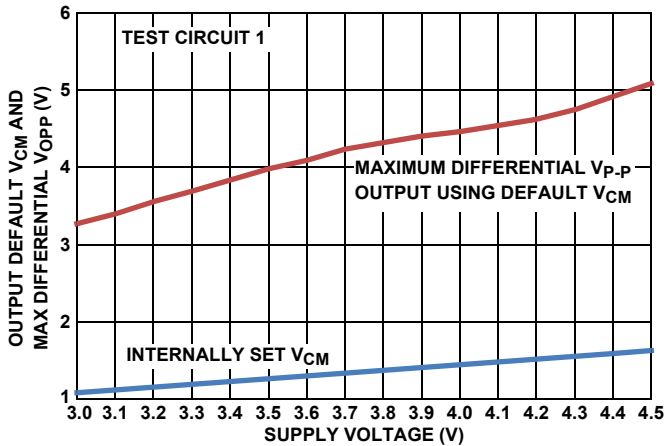
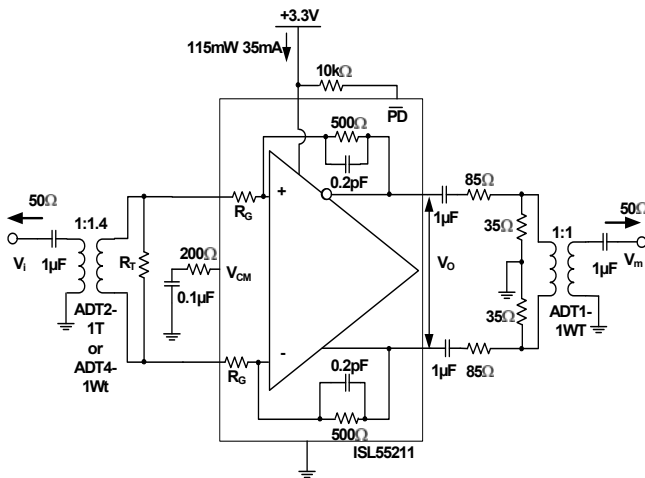
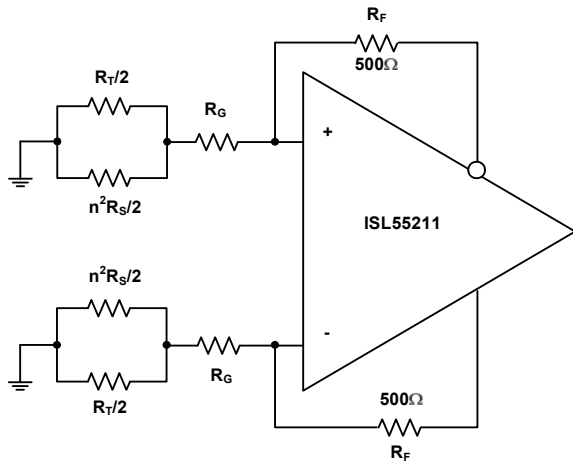
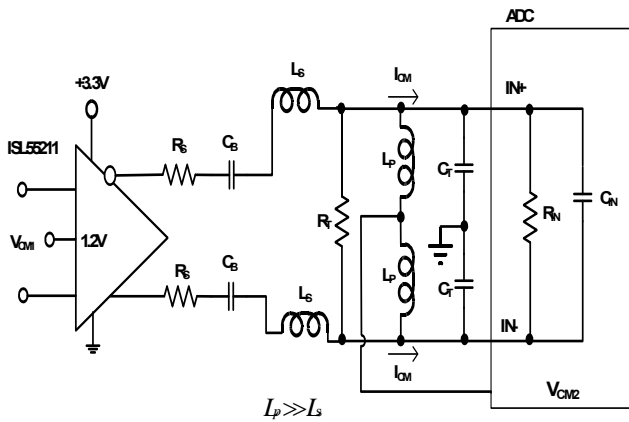

FIGURE 27. DEFAULT V_{CM} AND MAX V_{OPP} vs SUPPLY VOLTAGE
FIGURE 29. TEST CIRCUIT 1
FIGURE 35. NOISE GAIN MODEL FOR THE TRANSFORMER COUPLED INPUT CIRCUIT OF FIGURE 29
FIGURE 37. AC-COUPLED, HIGHER FREQUENCY RLC INTERSTAGE FILTER DESIGN
Test Circuit 1 of Figure 29 forms a starting point for many of the characterization curves for the ISL55211. Since most lab sources and measurement devices are single-ended, this circuit converts to differential at the input through a wideband transformer and would also be a typical application circuit coming from a single-ended source. Assuming the source is a 50 Ω impedance, the internal R_G resistors and external R_T are set to provide both the input termination and the gain. Since the inverting summing nodes act as virtual ground points for AC signal analysis, the total termination impedance across the input transformer secondary will be $(2 * R_G) || R_T$. Setting this equal to $n^2 * R_S$ will give a matched input impedance inside the bandwidth of the transformer (where "n" is the turns ratio). The amplifier gain is fixed by the selected input R_G element and the internal 500 Ω feedback resistors. While the ISL55211 is internally a Voltage Feedback Design (VFA) to give the lowest possible noise, internal compensation caps hold the bandwidth over gain setting approximately constant at 1.4GHz. For wider small signal bandwidth at lower gains, consider the ISL55210, which provides >2.2GHz at a gain of 12dB.
Working with a transformer coupled input as shown in Figure 29, or with two DC blocking caps from a differential source, means the output common mode voltage set by either the default internal V_{CM} setting, or a voltage applied to the V_{CM} control pin, will also appear as the input common mode voltage. This provides a very easy way to control the ISL55211 I/O common mode operating voltages for an AC-coupled signal path. The internal common mode loop holds the output pins to V_{CM} and, since there is no DC path for an I_{CM} current back towards the input in Figure 29, that V_{CM} setting will also appear as the input common mode voltage. It is useful, for this reason, to leave any input transformer secondary centertap unconnected. The internally set V_{CM} voltage is referenced from the negative supply pin. With a single 3.3V supply, it is very close to 1.2V but will change with total supply voltage across the device as shown in Figure 27.
Most of the characterization curves starting with Figure 29 then get different gains by changing the connections to the two pairs of input R_G connections, as shown on the pin configuration drawing on page 2. Two input turns ratios are intended for Test Circuit 1; either a 1:1.4 turns ratio (ohms ratio of 2) or a 1:2 turns ratio (ohm ratio of 4). The specific transformers shown in Figure 29 are representative of broadband RF transformers but alternate devices and manufacturers of these turns ratio devices are certainly applicable. The output side of this test circuit presents a differential 200Ω load while converting the differential to single-ended through a resistive attenuator and a 1:1 transformer. This inserts approximately a 17dB insertion loss that is removed to report the characteristic curves. For load tests below the 200Ω shown in Figure 29, a simple added shunt resistor is placed across the output pins. For loads > 200Ω, the series and shunt load R's are adjusted to show that total load (including the 50Ω measurement load reflected through the 1:1 output measurement port transformer) and provide an apparent 50Ω differential source to that transformer. This output side transformer is for measurement purposes only and is not necessary for final applications circuits. There are output interface designs that do benefit from a transformer as part of the signal path as shown in Figure 1. In that case, the 1:1.4 output side transformer becomes part of a filter design and recovers the filter insertion loss from the amplifier output pins to the ADC inputs.
The characterization circuit of Figure 29 shows one possible input stage interface that offers several advantages. Where AC coupling is adequate, the circuit of Figure 29 simplifies the input common mode voltage control. If the source coming into this stage is single-ended, the input transformer provides a zero power conversion to differential. The two gain resistors (R_G in Figure 29) provide both a portion of the input termination impedance and the gain element for the amplifier. For 50Ω systems, these R_G resistors are too high with the turns ratios shown in Figure 29 to provide the full match and an external R_T resistor is required. This R_T element goes away at the highest gain setting using a 1:2 input turns ratio transformer.
This input interface also simplifies the input common mode control. The V_{CM} pin controls the output common mode voltage. In most DC-coupled FDA applications, the input common mode voltage is determined by both this output common mode and the source signal. In a configuration like Figure 29, there is no path for a common mode current to flow from output to input, so the input common mode voltage equals the output. A similar effect could be achieved with just two blocking caps on the two R_G resistors. A DC-coupled, single to differential, configuration will also have a common mode input that is moving with the input signal. Converting to just a differential signal at the amplifier, as in Figure 29, removes any input signal related artifacts from the input common mode making the ISL55211 behave as a differential only VFA amplifier. There is only a very small differential error signal at the inputs set by the loop gain, as in a
of 1.3V for instance, then $1.3V + 0.9V + 1.5V = 3.7V$ will give an unclipped $3.6V_{P,P}$ output capability. The $V_{P,P}$ reported in Figure 27 is an asymmetrically clipped maximum swing. Going 10% above this 3.7V target to 4.1V will be within the recommended operating range and give some tolerancing headroom that would also suggest the V_{CM} voltage be moved up to approximately 1.5V, which coincides with the default output V_{CM} from Figure 27. Operating at +4.1V single supply in a Figure 29 type configuration will give the maximum linear differential output swing of $3.6V_{P,P}$.
The differential inputs internal to the ISL55211 also have operating range limits relative to the supply voltages. Operating in an AC-coupled circuit like Figure 29 will produce an input common mode voltage equal to the outputs. The inputs can operate with full linearity with this V_{CM} voltage down to 1.1V above the $-V_S$ supply. On the default 1.2V output V_{CM} on +3.3V supplies this gives a 100mV guardband on the input V_{CM} voltages. Overriding the default V_{CM} by applying a control voltage to the V_{CM} pin should be done with care in going towards the negative supply due to this limit. On the + side, the maximum input V_{CM} above the $-V_S$ supply is 2V so there is more room to move the output V_{CM} up than down from the default value.
+85°C maximum operating ambient from Figure 27, we get $4.5V \times 45mA \times 120^\circ C/W = +24^\circ C$ rise above +85°C or approximately +109°C operating T_j maximum - still well below the specified Absolute Maximum operating junction temperature of +135°C.
Adding an input transformer can improve the input referred noise by adding a noiseless voltage gain. Starting from Test Circuit 1 of Figure 29, and assuming the source shows a matched broadband source R_S that will be matched by the input referred parallel combination of $2 * R_G || R_T$, a noise gain analysis circuit can be developed as shown in Figure 35.
Stepping through the 3 gain settings with two input transformers will allow the noise gain to be calculated for the circuit of Figure 35, which is all that is needed in Equation 1 to arrive at an output differential noise (since R_F is fixed at 500Ω). Doing this gives Table 4.
2. AC-coupled, higher frequency range interstage filter design. This design replaces the R_T resistors in Figure 35 with large valued inductors and implements the filter just using shunt resistors at the end of the RLC filter. In this case, the ADC V_{CM} can be tied to the centerpoint of the bias path inductors (very much like a Bias-T) to provide the common mode voltage and current to the ADC inputs. These bias inductors do limit the low frequency end of the operation where, with $1\mu\text{H}$ values, operation from 10MHz to 200MHz is supported using the approach of Figure 37.